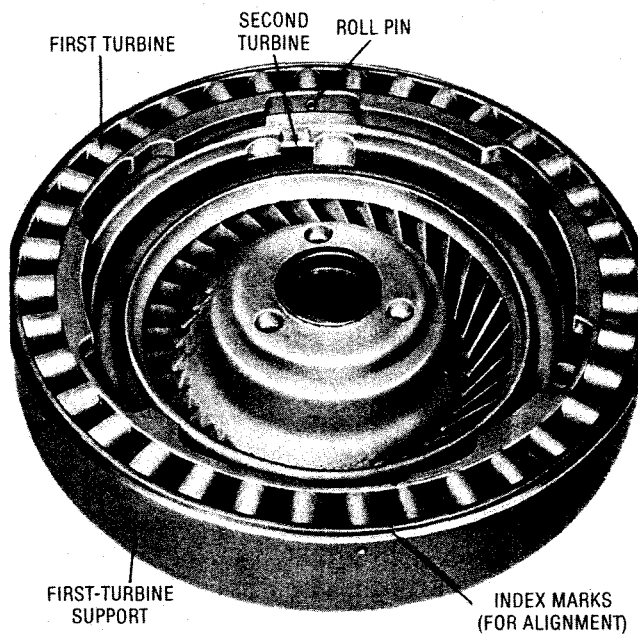

Fig. 6-3. First- and second-turbine assembly
(1) Locate the index marks (V-groove) in the outer rims of the first-turbine support and the first turbine (fig. 6-3). Make sure these marks are well de-
(2) Drive (but do not remove) the six (or nine) roll pins inward toward the hub until they clear the holes in the first-turbine support (fig. 6-3). Remove the roll pins only if replacement is necessary.
(5) Drive the six (or nine) roll pins outward to a depth of 0.000-0.030 inch (0.76 mm) below the outer surface of the first-turbine support (fig. 6-3).